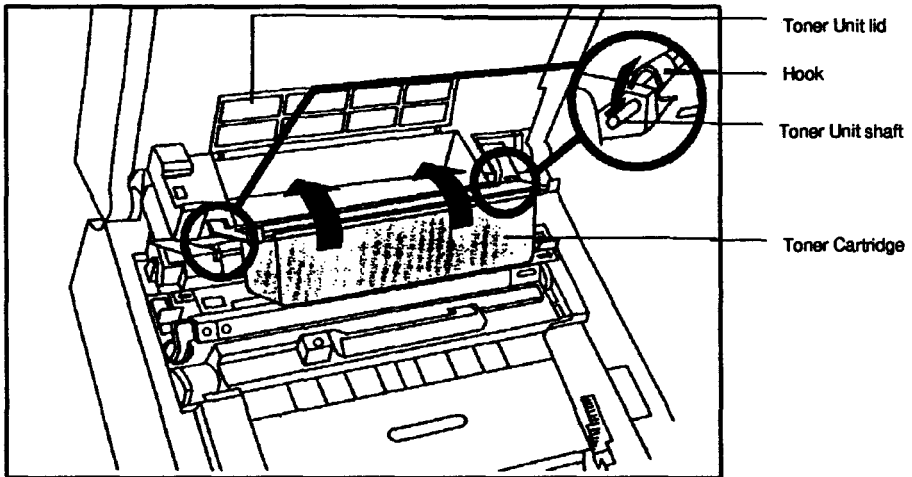

Fig 2: Installing the Toner Unit
4. Tip the cartridge upside down, as shown in fig.2 by the directional arrow.